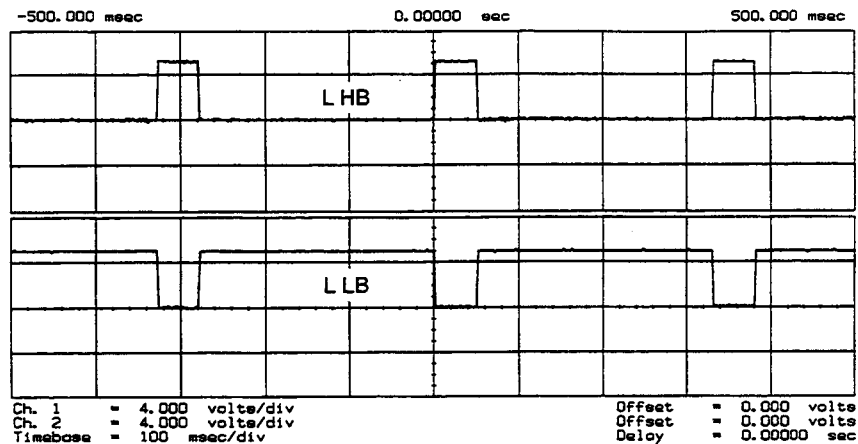

Figure 16. Complementary L HB and L LB Signals (Preset)
**L HB and L LB Lines:** These complementary signals toggle when the instrument switches from low band to high band as illustrated by Figure 16.